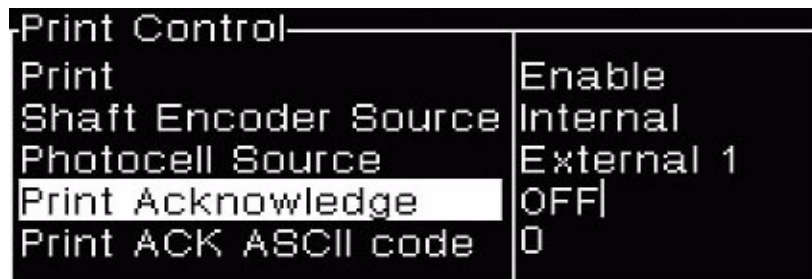

Figure 7-6: Print Control Dialog Box
- 3 Press Enter to open the Print Control dialog box (Figure 7-6).